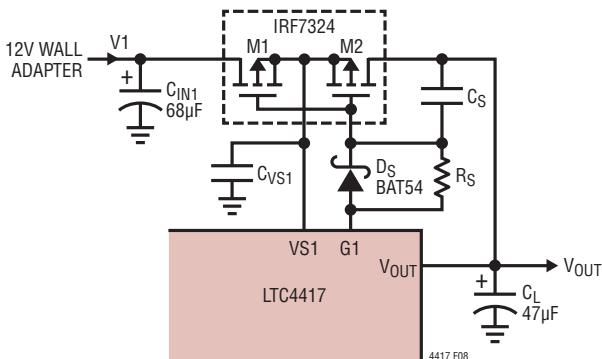

Figure 8. Slew Rate Limiting Gate Drive
Equation (13) assumes no inrush current limiting circuitry is required. If it is required, refer to Figure 8 and use the following Equation (14) for C_L.
where R_S and C_S are component values shown in Figure 8. The selection of R_S and C_L involves an iterative process. Begin by assuming $0.79 \cdot R_S \cdot C_S = 10\mu\text{s}$ and choosing C_L using Equation (14). See the Inrush Current and Input Voltage Droop section for more details regarding inrush current limiting circuitry, and for selecting R_S .
In situations where input and output capacitances cannot be chosen to set the desired maximum input voltage droop, or the peak inrush current violates the maximum Pulsed Drain Current (I_{DM}) of the external P-channel MOS-FETs, inrush current can be limited by slew rate limiting the output voltage. The gate driver can be configured to slew rate limit the output with a resistor, capacitor and Schottky diode, as shown in Figure 8. The series resistor R_S and capacitor, C_S , slew rate limit the output, while the Schottky diode, D_S , provides a fast turn off path when G_1 is pulled to V_{S1} .